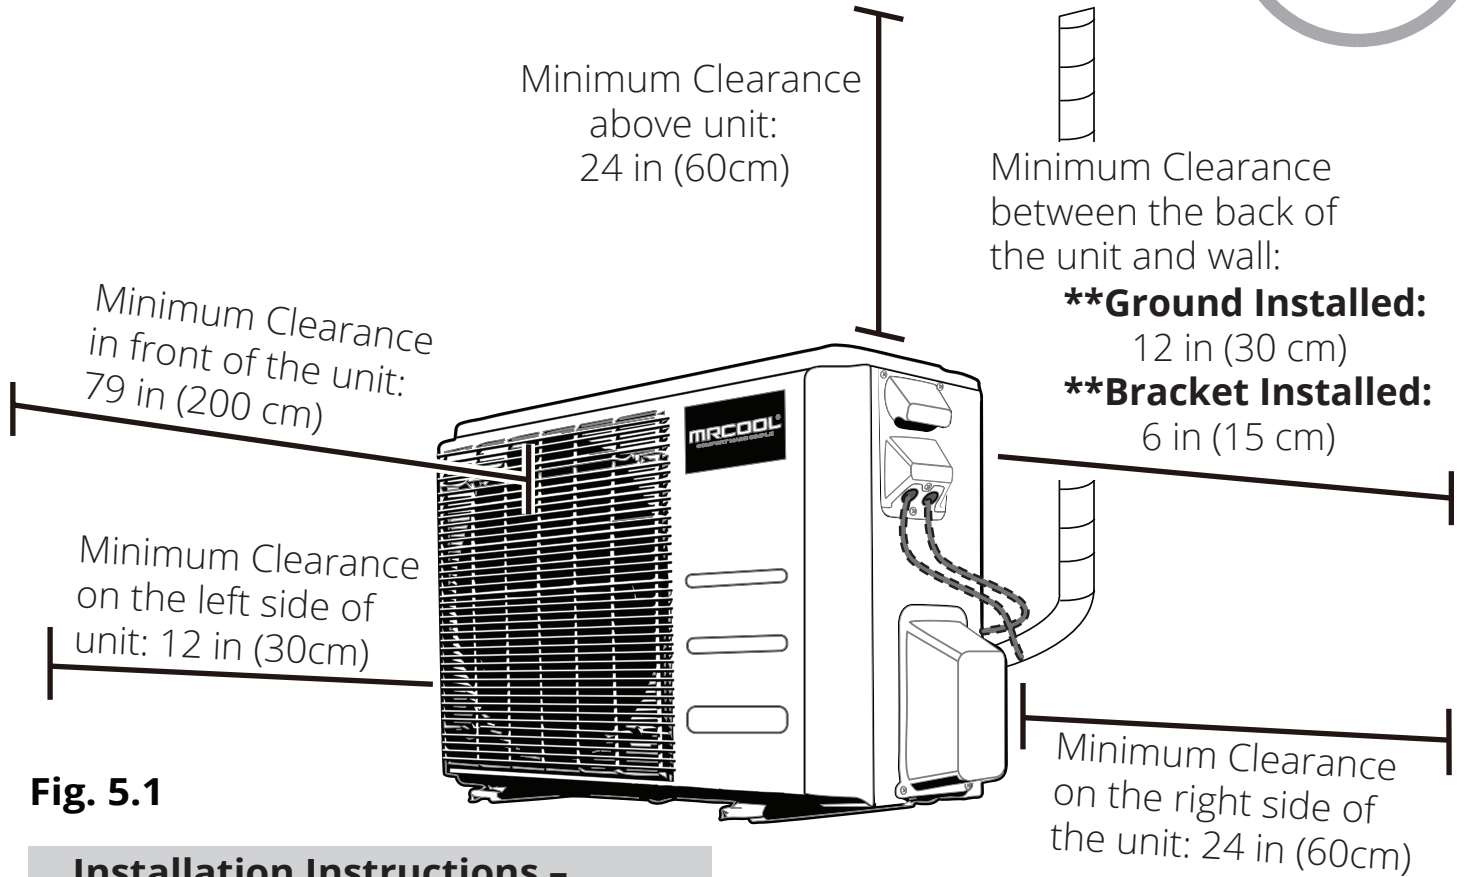

Fig. 5.1
- Meets all spatial requirements shown in Installation Space Requirements (Fig. 5.1)